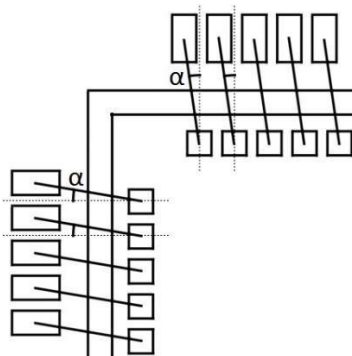

Fig. 8: Angle between the wire and the normal through the middle of the bondpad
maximum 45° (figure 8).
20. The angle between the bond wire and the normal through the middle of the bondpad should be maximum 45° (figure 8).